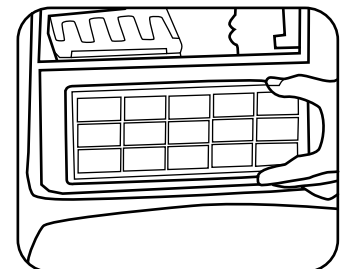

Fig. 2
2. Remove the HEPA filter from the front of the bag compartment (Fig. 2).